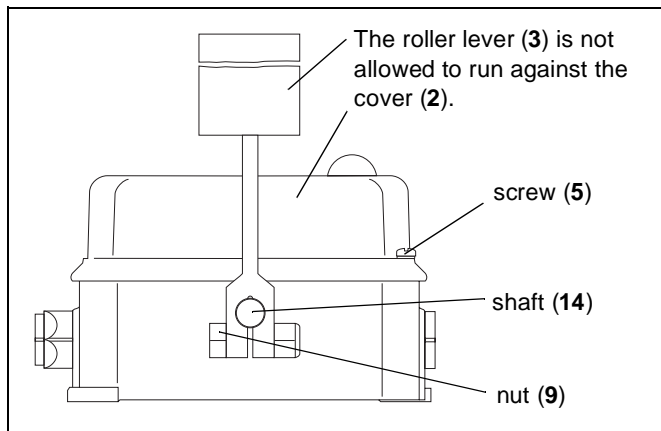

Fig. 7-1: Exchanging the roller lever
2. Loosen the nut (9) with an open-end wrench SW 13 and pull the roller lever (3) from the shaft (14) (see Fig. 7-1).